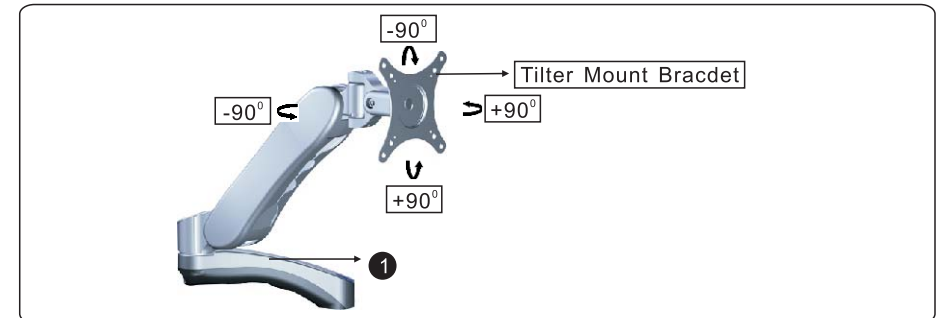

Figure 2-1
1. Ensure Tilter Mount Bracket of Articulating Arm Assembly is able to swivel and tilt easily. (See Figure 2-1) The Articulating Arm mechanism should be free tension resistance. Adjust as required before proceeding to next step.